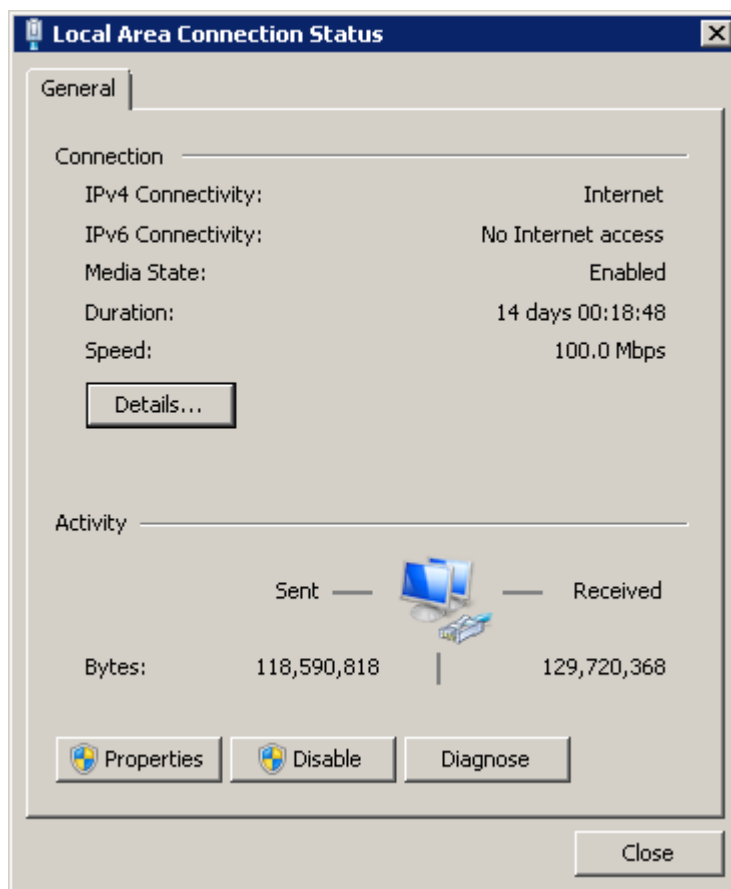

Figure 52 Local Connection Status
- Step 1.** Double click the icon  of **Local Area Connection** in the taskbar to pop up the **Local Area Connection Status** window, as shown in Figure 52.